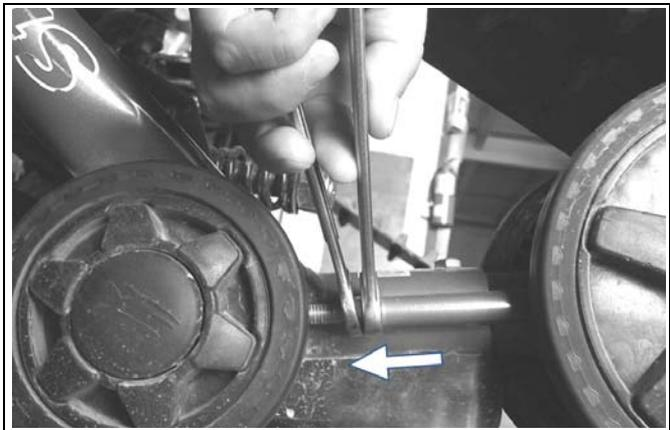

Figure 22
- Set rubber track tension to the minimum (refer to Figure 22).